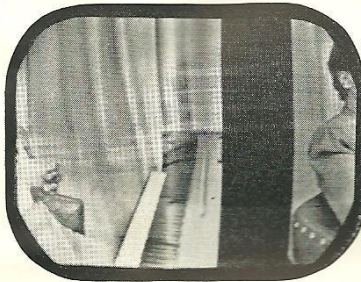

Fig. 93. After frequency control has been adjusted.
1. Adjust the horizontal frequency control, until a complete picture is seen on the screen. The entire picture will move sideways as shown at Fig. 93.